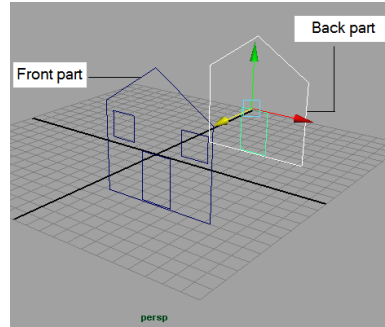

*Figure 3-103 Profile curves for the house and the door*
3. Similarly, create the profile curves for doors and windows in the front viewport using **EP Curve Tool**, as shown in Figures 3-103 and 3-104.